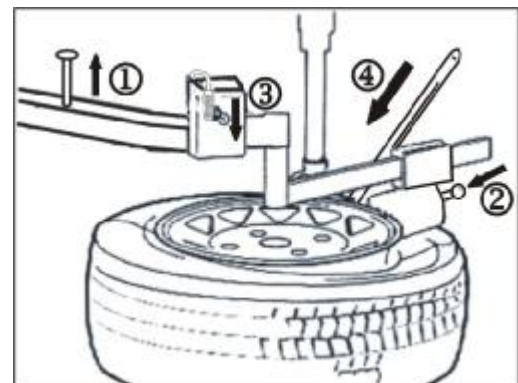

Fig.32
- I Move the front swivel arm to the position as in figure 32, pull out spacer pin as ①, press down the knob as ②, lower down control lever as ③ to press down tyre 3-5cm, insert tyre lever between the head and the bead as ④, finally lift the lever to restore the roller.